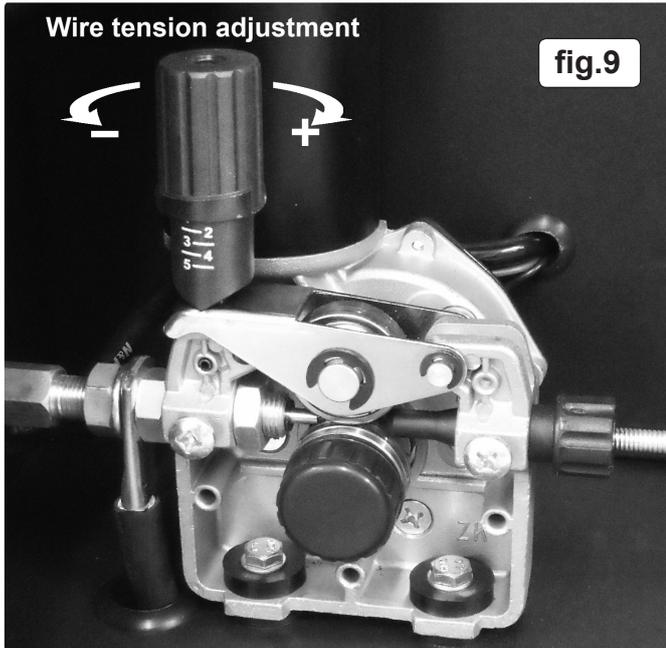
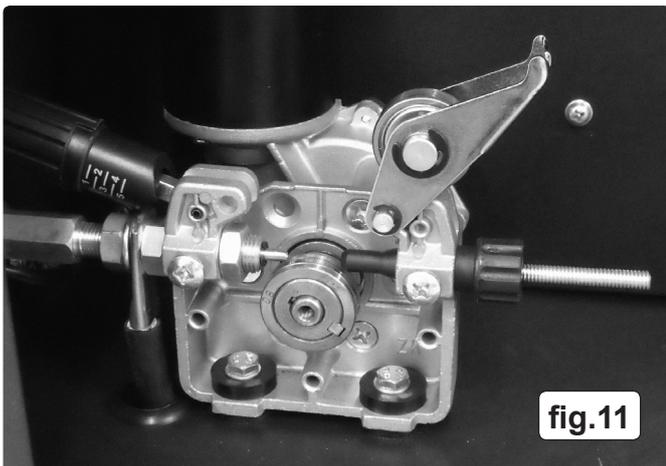

fig.9
fig.11
6.1 The wire feed mechanism has a lower grooved drive roller and an upper pressure roller. The pressure roller is in a separate hinged housing which is held in place and acted upon by a pressure adjustment knob as shown in fig.9 above. To access the drive mechanism pull the pressure adjustment knob over to the left and allow it to hinge downwards. As you do so the pressure roller housing will spring open to the right as shown in fig.11 below.
6.1.3 When changing from $\varnothing 0.8\text{mm}$ to $\varnothing 1.0\text{mm}$ wire it will be necessary to reverse the position of the roller on its carrier. Firstly unscrew and remove the black knurled knob that holds the roller and its carrier in position (see fig.11).
6.2.1 Close and hold down the pressure roller housing then hinge the pressure knob upwards and onto the housing until it snaps into position. Set an intermediate pressure between marks 2 and 3. Turning the knob clockwise increases the pressure. Turning the knob anti-clockwise decreases the pressure. (See fig.9).
- 6.4.1 Tension between rollers is checked by slowing down the wire between your fingers. If the top feed rollers skid the tension is correct. Use as low a tension as possible, too high a tension will deform wire and result in a blown fuse on the printed circuit board. Adjust tension by turning the pressure knob as shown in fig.9.